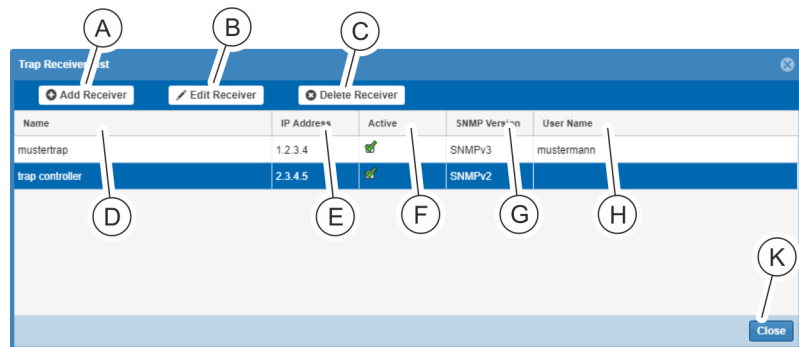

Fig. 139: “Trap Receiver List” window
⇒ The “Trap Receiver List” window opens (Fig. 139).
- (A) “Add Receiver” button for adding a trap receiver
- (B) “Edit Receiver” button for modifying a trap receiver
- (C) “Delete Receiver” button for deleting a trap receiver
- (D) “Name” column with the name of the trap receiver
- (E) “IP Address” column with the IP address of the trap receiver
- (F) “Active” column displaying whether the trap receiver is active or not.
- (G) “SNMP Version” displaying the SNMP version of the trap receiver
- (H) “User Name” column displaying the user name
- (K) “Close” button for closing the window
3. Set up a trap receiver by clicking the “Add Receiver” button (Fig. 139/A).
You can configure trap receivers with the SNMPv1/SNMPv2 protocol or trap receivers with the SNMPv3 protocol (Fig. 139).
4. After setting up the trap receiver, leave the window using the “Close” button (Fig. 139/K).